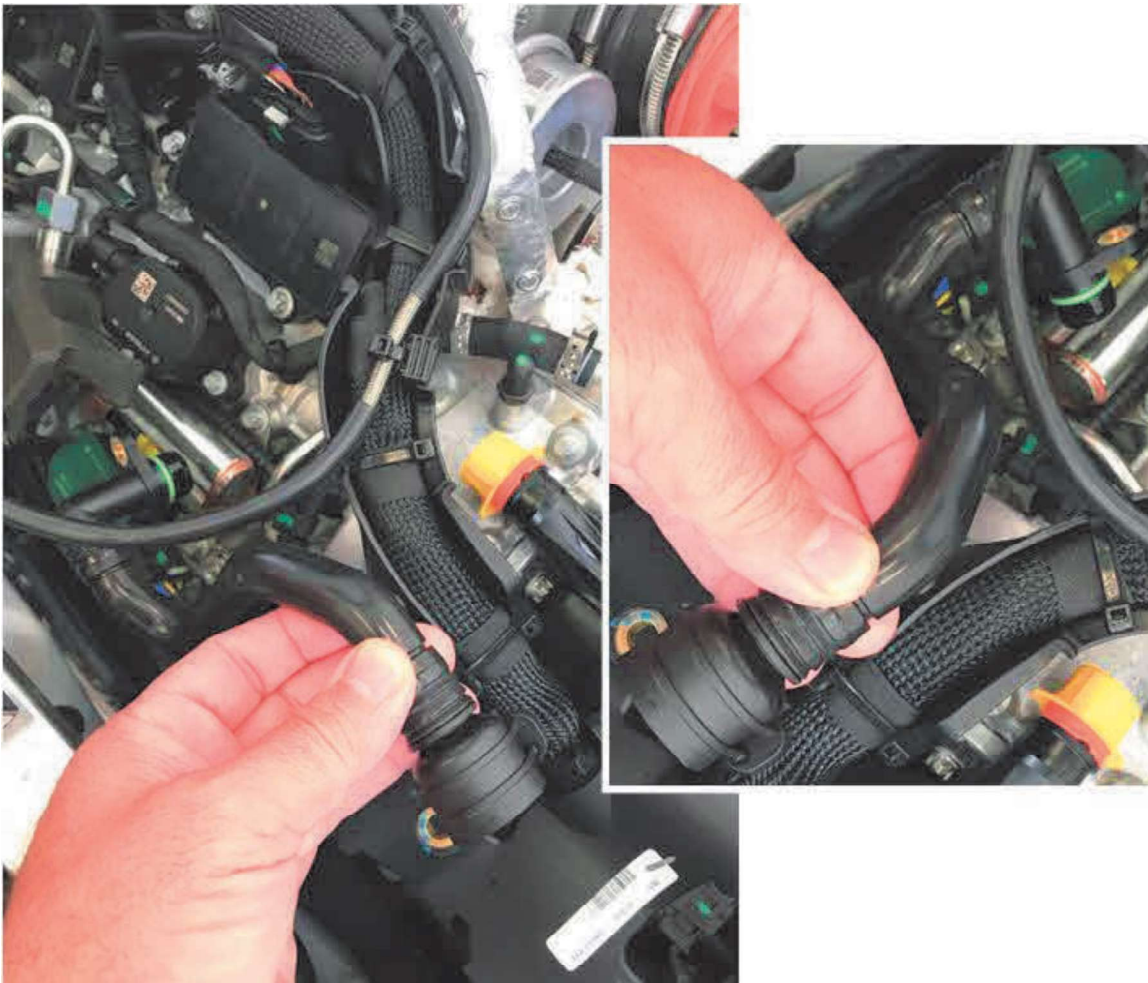

Figure 1
3. Remove bleed line between right cylinder head cover and oil separator (**figure 1**).